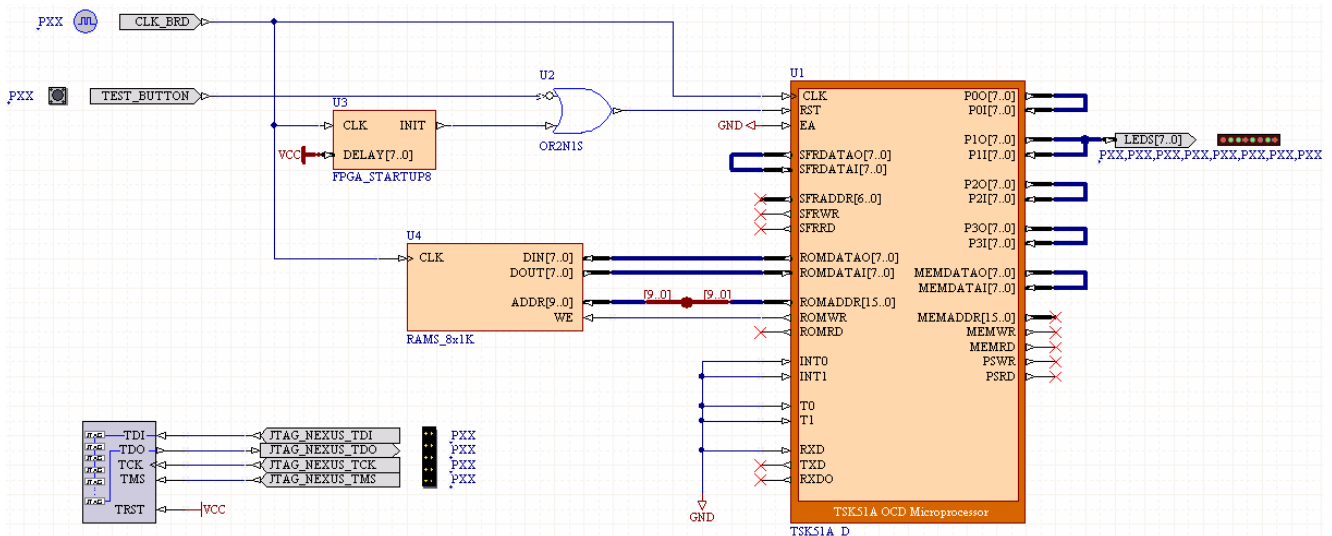

Figure 3. Final schematic sheet, fully wired.
- Annotate the design using the **Tools » Annotate Schematics Quietly** command. The *Confirm Designator Changes* dialog displays the following message: "There are 4 designators requiring update. Proceed with changes?". Click **Yes**. The designators will be automatically changed from U? to U1, for example, and numerically augment. Your FPGA design schematic should now appear as shown in Figure 3.